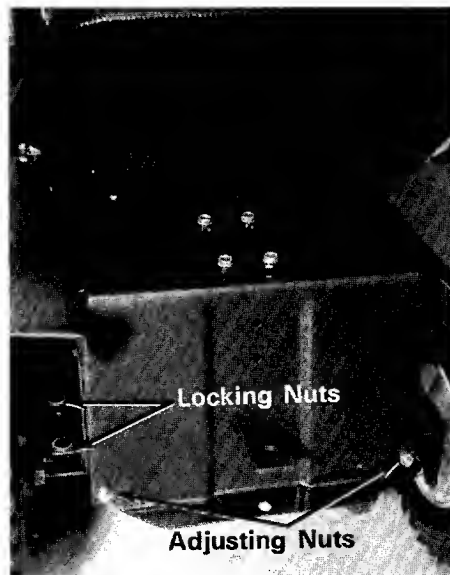

Figure 18
- 1 To tighten the chain, loosen the two locking nuts on each side of the rear axle. (See figure 18.)
- 6 Remove the cotter hairpins holding the front four deck links. Allow the deck to tip forward. (See figure 18.)